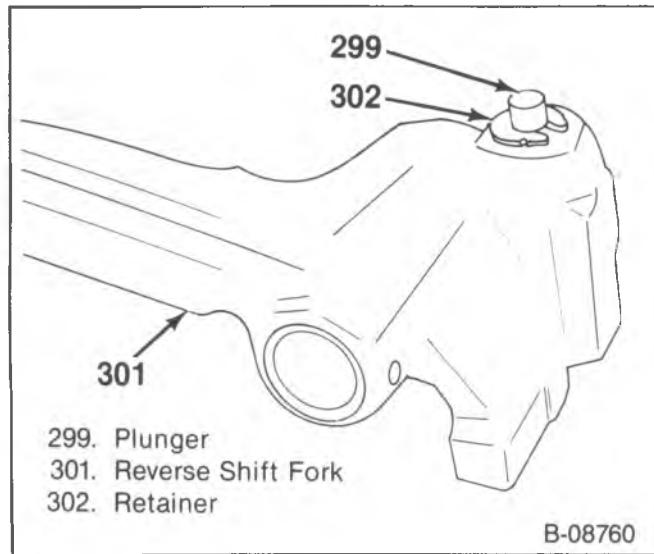

Figure 32—Plunger Retainer
1. Plunger (299), spring (300) and the retainer (302) to the reverse shift fork (301), (figure 32).